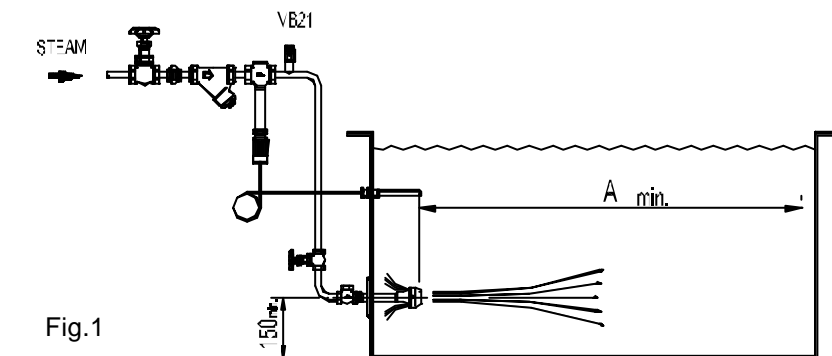
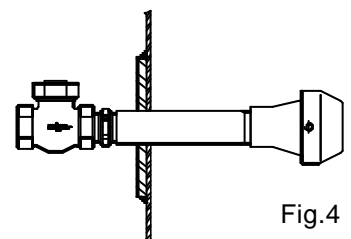

Fig.1
Fig.4
2. The SI steam injector should be fitted as low as possible in the tank and always below the level of the thermostat controller. A minimum depth of water must be allowed below the injector as showned on Fig.1 and 2.
3. The distance between the injector and the tank wall must be as great as possible. The dimensions mentioned on Fig.1 to 3 are the minimum recommended.
4. A stiffener plate should be welded to the tank wall to carry the bulkhead fitting (Fig.4). A vacuum breaker (VB21) must be fitted between the injector and the control valve. Where steam supply pipe is below the level of the liquid in the tank (Fig. 1), a non return valve is recommended between the injector and the control valve to prevent the contents of the tank flowing back through the valve and back up the steam supply pipe when the steam supply is turned off. A stop valve should also be fitted between the injector and the non return valve to enable maintenance work to be done on both the control valve and non return valve.